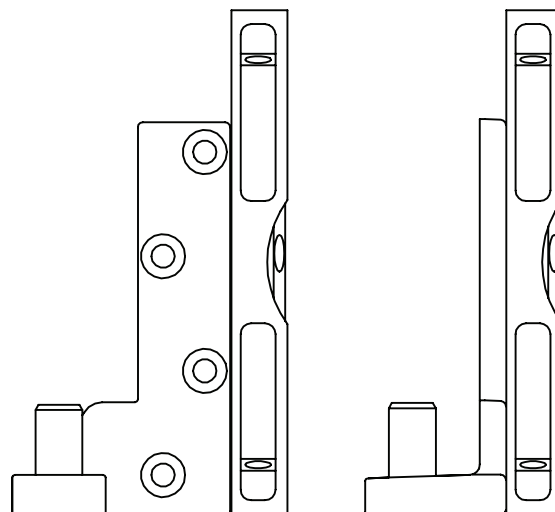

Figure 1
1. Prepare and mortise bottom of door and side jamb to receive pivot set. Determine pivot location using dimensions on reverse side. **Be sure to properly locate and mark center point of the jamb leaf spindle.** Care must be taken to ensure that jamb leaf is completely level. Place level against jamb leaf surfaces as shown in Figure 1. The bottom pivot set is handed. Hand of pivot must match hand of door. To determine hand of door, see diagrams above.